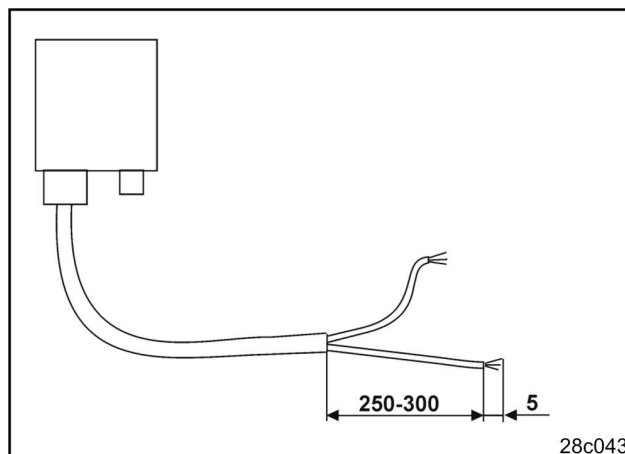

Fig. 5
- Strip the cable end (Fig. 5) by approx. 250 to 300 mm.
- Individually remove the insulation from the cable ends (Fig. 5) by 5 mm.